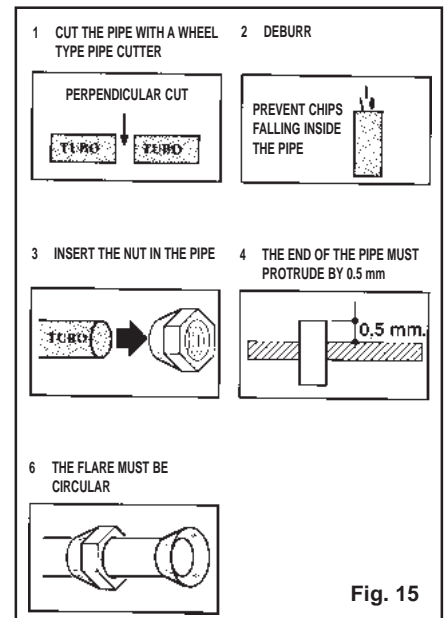

Fig. 15
- g) The piping and the appliances (internal and external units) are connected by means of binders. After the piping has been cut and the nut which is found on the connection has been inserted onto the piping (fig. 15), the piping must be binded in accordance with the norms.